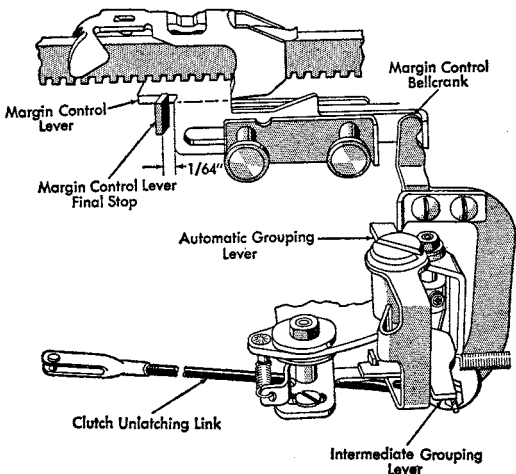

Figure 27. Unlatching Link Adjustment
9. CLUTCH UNLATCHING LINK. Adjust so that the clutch will unlatch when the margin control lever is $\frac{1}{64}$ " from its final stop (Figure 27).